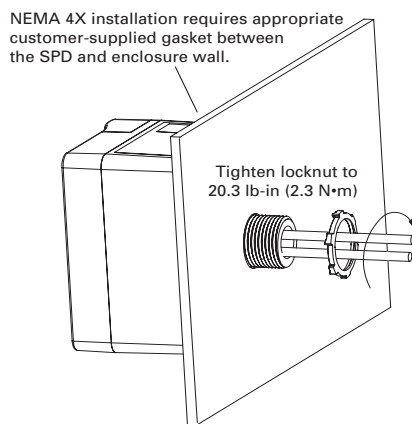

Figure 1.
6. Remove the locknut from the unit and insert leads through the panelboard wall being careful not to damage the conductor insulation. (For NEMA 4X installations, use appropriate gaskets or sealing means to retain the NEMA 4X rating on the installation — see Figure 1.) Reinstall locknut and tighten to specified torque.